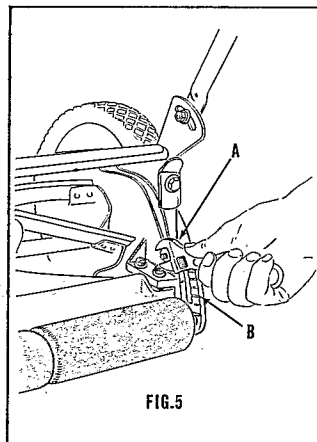

FIG. 5
2. Loosen the carriage bolt nuts "A" at each end of the roller (Fig. 5).